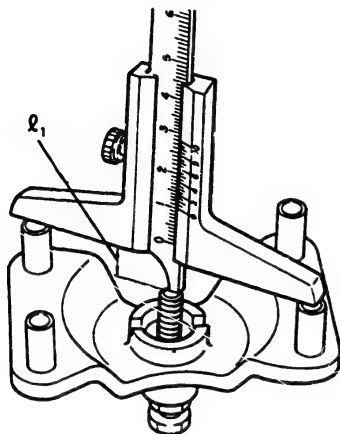

Fig. 43 Adjusting the stopper bolt position
- 2 Install the adjusting cover (KDEP 2616) to the boost compensator after adjusting the cover's stopper bolt installation position so that the distance between the tip of the stopper bolt and the face of the cover is l_1 , as measured in 4 - 6 or 5 - 1 above. (Fig. 43)